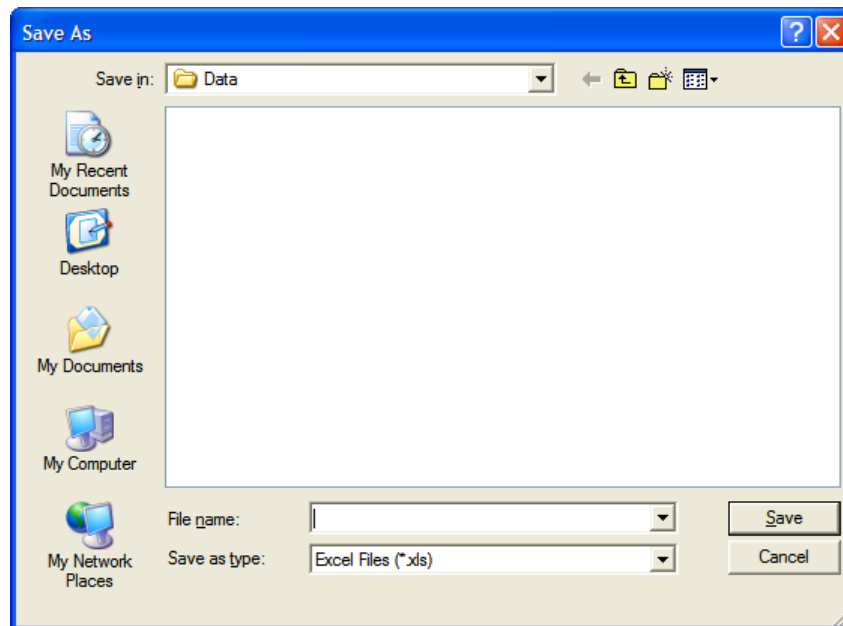

Figure 7-37 Selecting Excel File
5. Click the **Export Selection** button to export the highlighted selection to an Excel file. You will be asked if you want to add to the previously exported data. If this selection is from the same summary that was previously exported, answer Yes, and the data will be added. Answering No will create a new Excel file. In either case, select the Excel file as in Figure 7-37 Selecting Excel File.